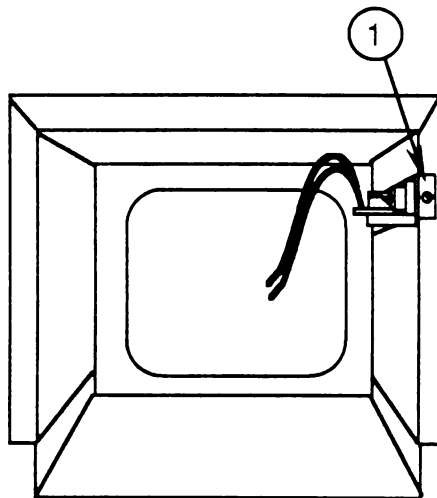

FIGURE 4
7. Locate the on/off switch inside the rear cover (see Figure 4). The switch is mounted on a plastic bracket that is attached to the side of the rear cover.
8. Remove the screw (Figure 4, #1) that secures the plastic on/off switch bracket to the rear cover.
1. Replace the screw that holds the on/off switch bracket to the rear cover (Figure 4, #1).